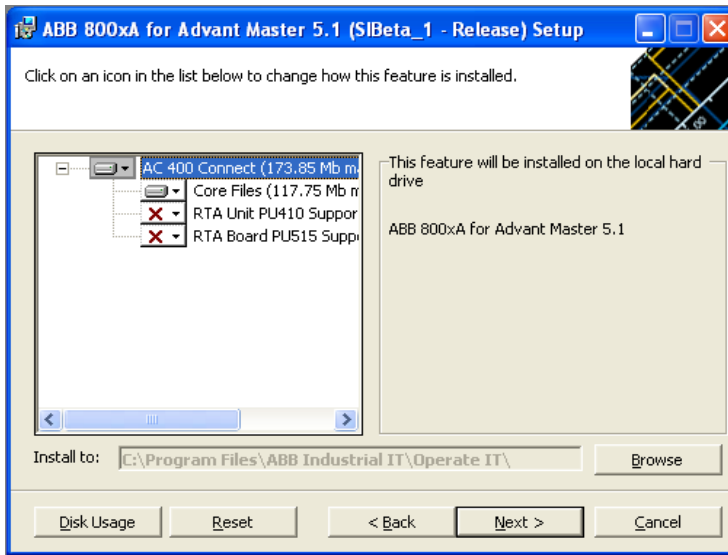

Figure 33. Select Components Dialog Box for 800xA for Advant Master
- c. **Select Components dialog box:** Select which features to install (Figure 33). Use this dialog box to select the RTA Board Support.